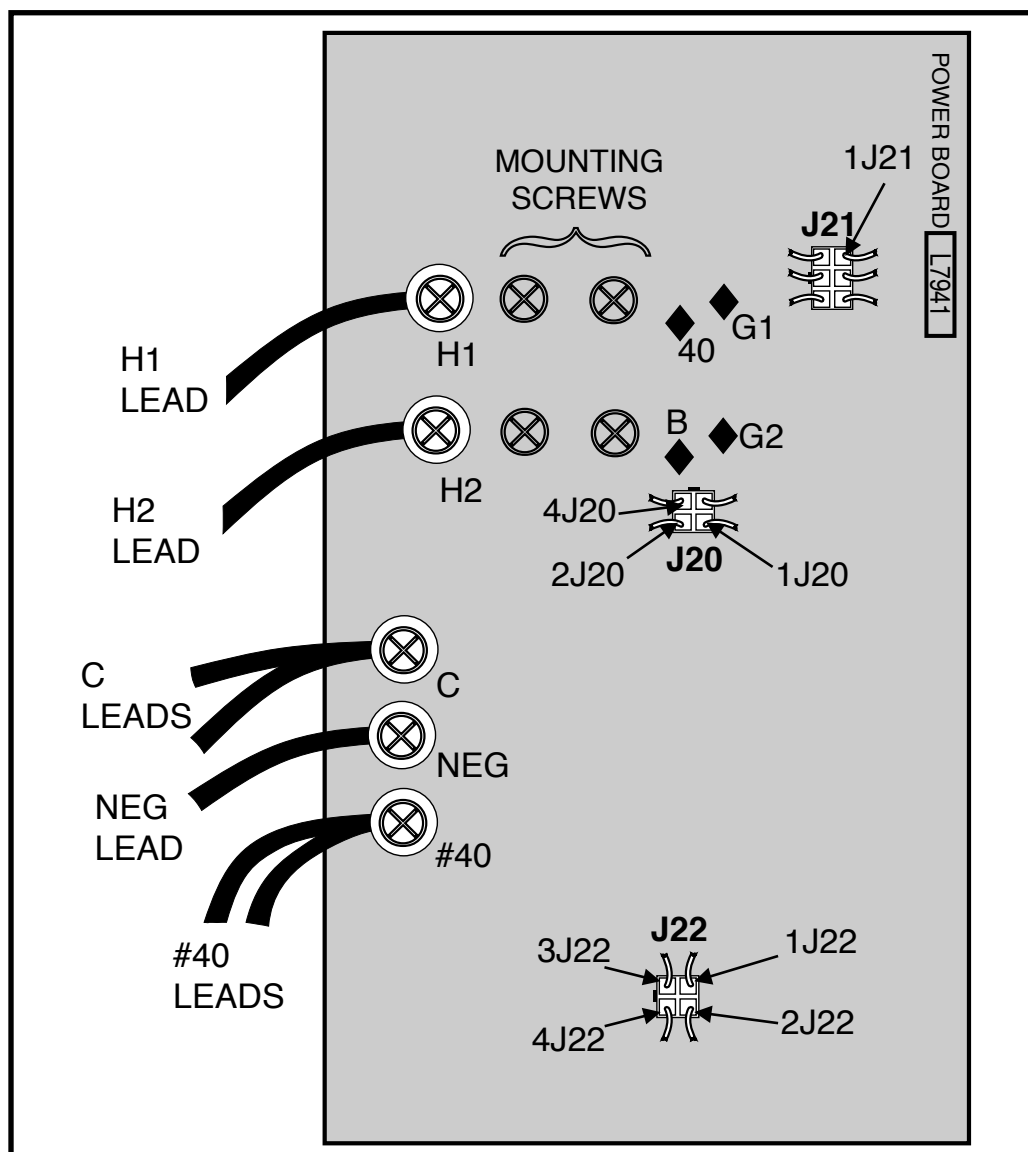

FIGURE F.11-Power Board Test Points
1. Locate and insert probes into Power Board Plug locations 1J22 (lead H4) and 3J22 (lead H3). See Figure F.11. Carefully insert the probes into
1. Locate and insert probes into the following Power Board plug locations (See Figure F.11):
5. Locate and insert probes into the following Power Board plug locations (See **Figure F.11**):